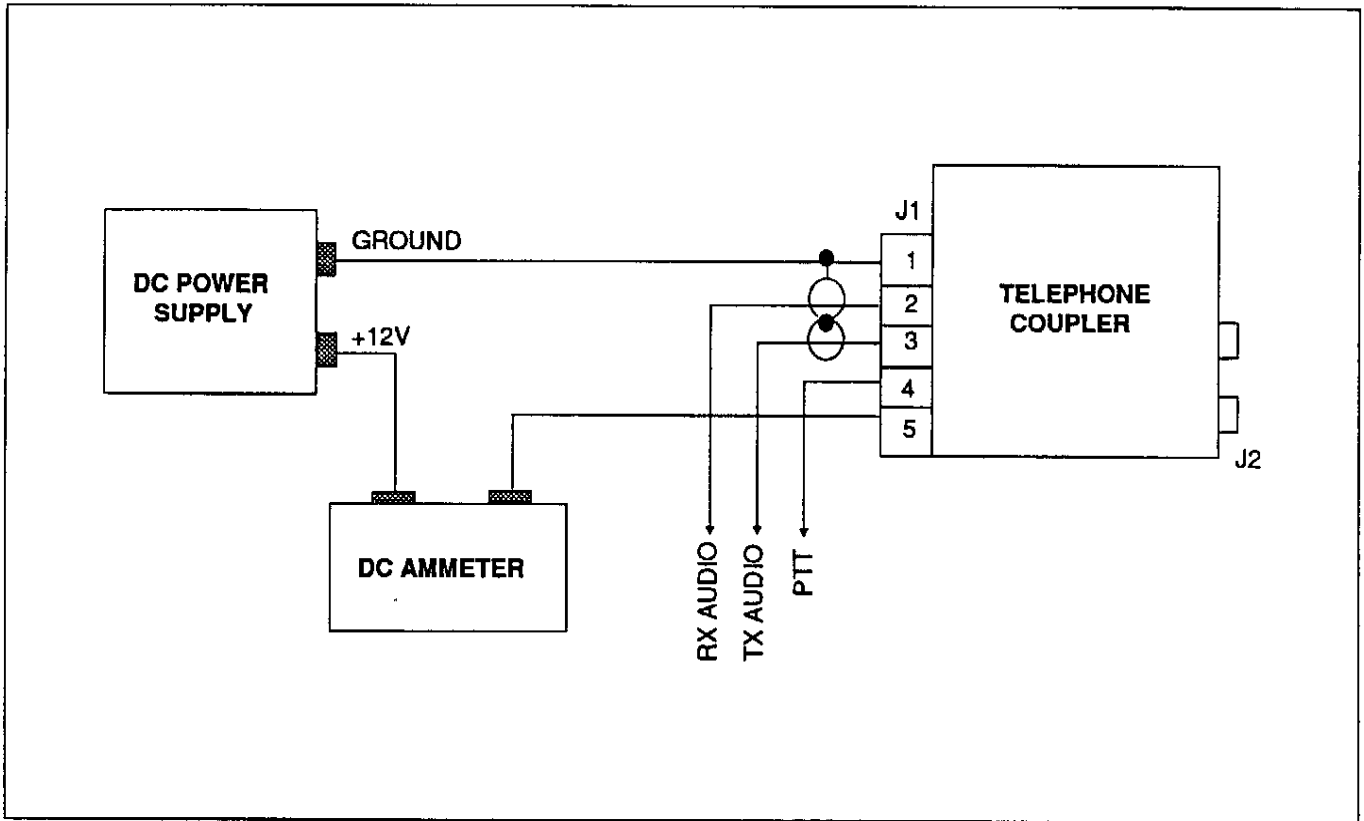

FIGURE 7. Dc Current Check.
2. Connect the equipment as depicted in Figure 7. All front panel potentiometer controls should be at "5" (mid-scale). The mode switch should be "OFF".